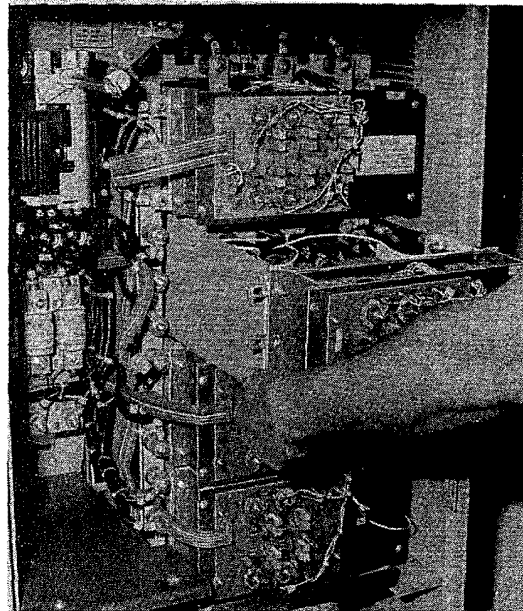

FIGURE 11
6. Carefully pull the module(s) out of the rack using the red plastic insulation cover in front of the module (See Figure 11).
7. The module can be repaired on a table. See (1) Press-Pak SCR replacement — phase module, or (2) stud mounted SCR replacement — Phase module or (3) Press-Pak SCR and stud mounted SCR replacement — Phase module.